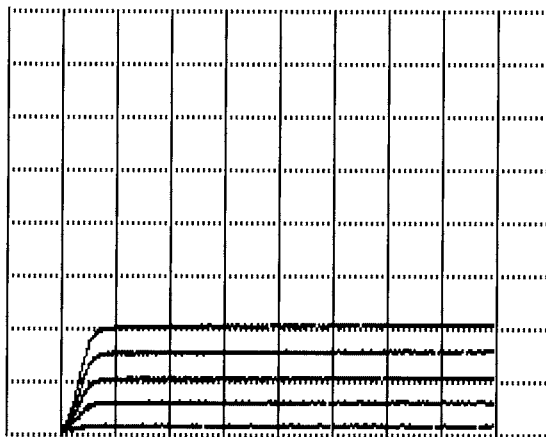

Figure 1
The curve family of a transistor covers an area of 8 x 8 divisions on the Oscilloscope display. As shown in Figure 1, the top line of the display represents the maximum value of the selected current range ($I_{max}=200/20/2mA$), and the right edge of the 8 x 8 display grid represents the maximum value of the selected voltage range ($V_{max}=40/10/2V$). The display is linear along both axes.
5. Press the DUT switch [2]. A display of 5 curves similar to Figure 1 or 2 will be displayed on the Oscilloscope. Some components can get very hot while being tested. Please use caution when handling components that have been connected to the tester.